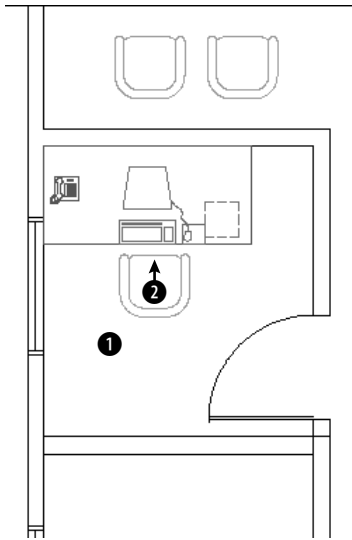

Figure 18-32: An office with a set of office furniture.
1. Open `ab18-h.dwg` from the CD-ROM. This is a plan of an office building zoomed in to one office. A file containing one set of office furniture has been inserted, as shown in Figure 18-32.
6. Leave the Text Options as they are. Make sure that the Specify On-Screen check box is checked and click OK. Pick point ❶ in Figure 18-32.